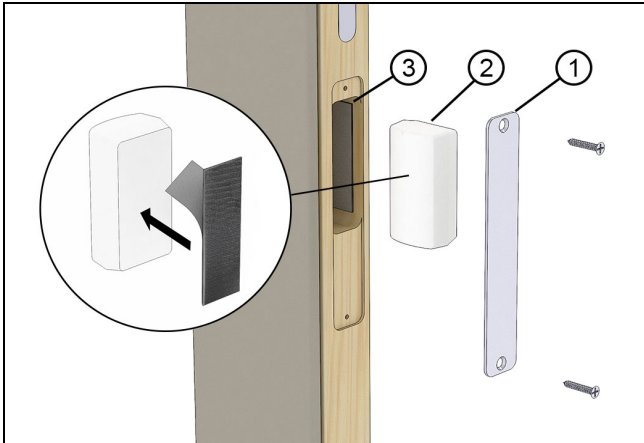

Figure 30 Door stiles
2. On the edge of the active panel, remove the transmitter cover plate by removing the screws fastening the plate to the side of the panel. Use the provided hook and loop strip affixed to the inside of the route to position your transmitter (remove backing and adhere to your transmitter). See Figure 30.